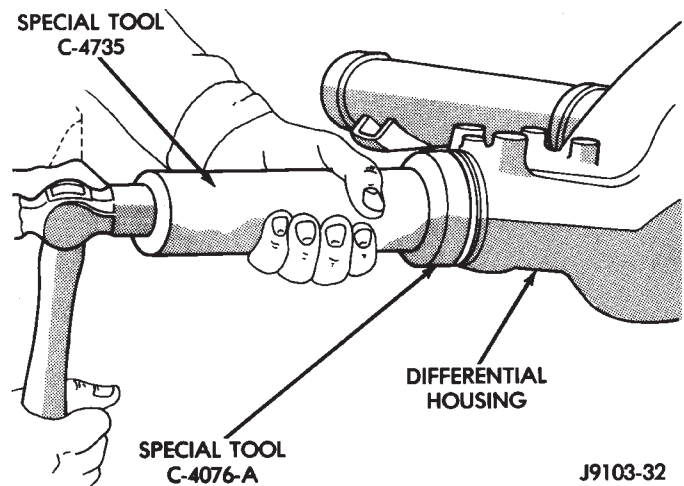

Fig. 15 8 1/4 Axle Pinion Seal Installation
- (4) Apply a light coating of gear lubricant on the lip of pinion seal.
- (5) Install the new pinion shaft seal with:
- 8 1/4 axle: Installer C-4076-B and Handle C-4735-1 (Fig. 15).